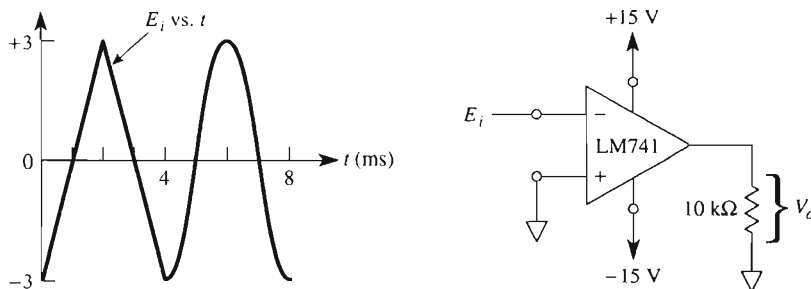

FIGURE P2-7
- 2-7. E_i is applied to the $(-)$ input and ground to the $(+)$ input of a 741 in Fig. P2-7. Sketch accurately (a) V_o vs. t and (b) V_o vs. E_i .
- 2-8. Swap the input connections to E_i and ground in Fig. P2-7. Sketch (a) V_o vs. t and (b) V_o vs. E_i .